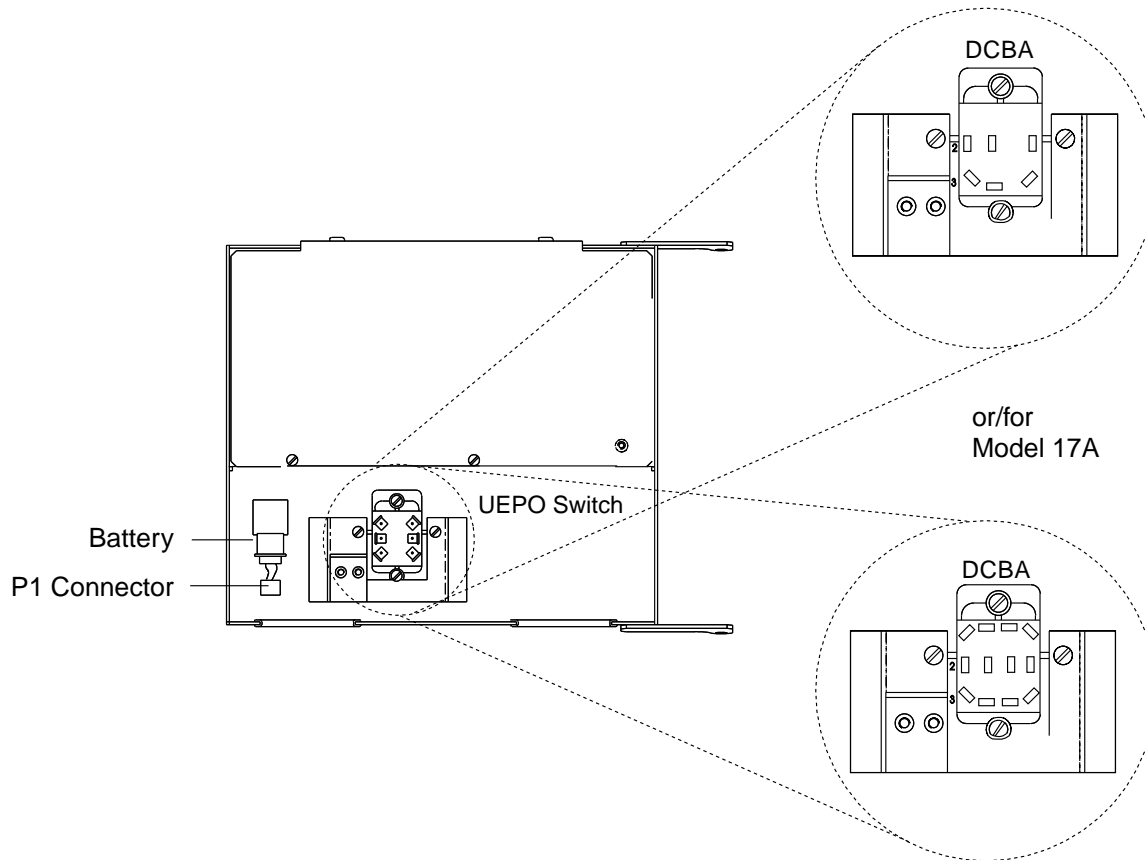

Figure 1-6. Control Panel (Rear)
- Step 7. ____ Open the control panel (one screw). Locate the unit emergency power OFF (UEPO) switch at the rear of the control panel (see Figure 1-6 on page 1-9).
- Step 9. ____ At the rear of the control panel, plug the battery connector P1 to connector J1 (see Figure 1-6 on page 1-9 for location). Close and secure the control panel with the screw previously removed.